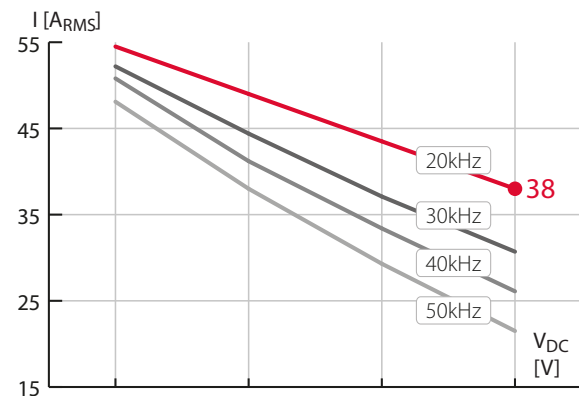

Fig. 5. Current capability as a function of the DC-bus voltage
- » The DC bus voltage is reduced (Fig. 5)